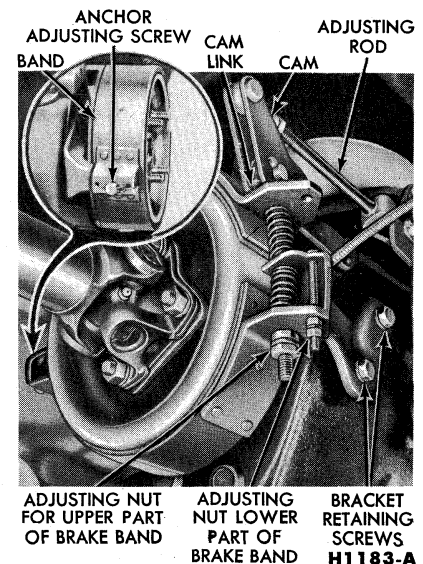

FIG. 6—Typical Band Type Parking Brake
The band type parking brake consists of a brake drum bolted to the transmission main shaft companion flange, and an external contracting type band mounted on the rear of the transmission (Fig. 6).
1. On cable-controlled parking brakes (Fig. 6), move the parking brake lever to the fully released position. On a truck with a rod-type linkage, set the lever at the first notch.
2. Check the position of the cam to make sure the flat portion is resting on the brake band bracket. If the cam is not flat with the bracket, remove the clevis pin from the upper part of the cam, and adjust the clevis rod to allow the flat portion of the cam to rest on the brake band bracket. Install the clevis pin and cotter pin (Fig. 6).
4. Loosen the lock nut on the adjusting screw for the lower half of the brake band, and adjust the screw to establish a 0.010 inch clearance between the lining and the brake drum at the lower half of the brake band (Fig. 6). Tighten the lock nut.